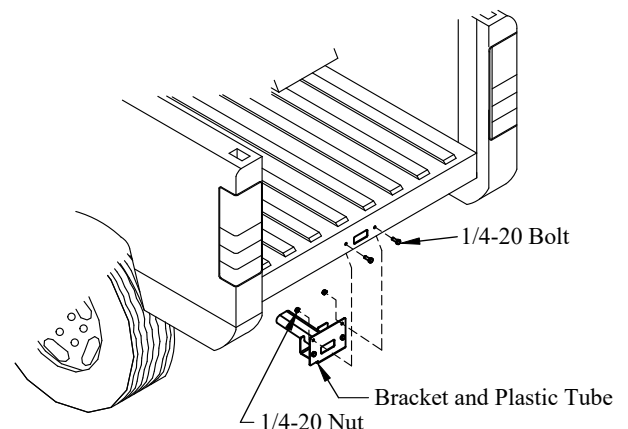

Figure 8: Relocated spare tire crank.
8. **Install** the relocation bracket with plastic tube onto the truck using 1/4-20 bolts and nuts (Figure 8).